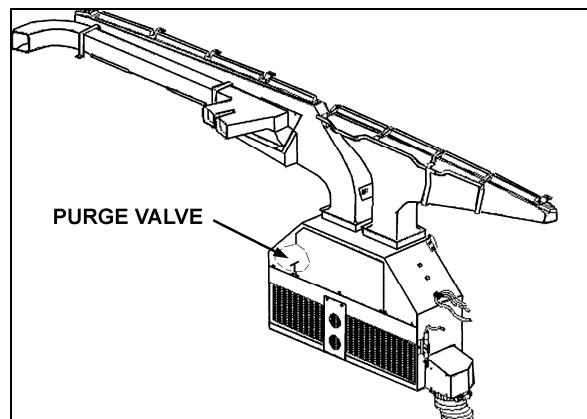

FIGURE 49: DRIVER'S HVAC/DEFROST UNIT
4. From inside of vehicle, remove the two finishing panels in front of unit. Remove the three screws fixing the unit front panel. Open the manual vent located inside the driver's HVAC unit, on the driver's side (Figure 49) to ensure an efficient draining.
Whenever the heating system has been drained and refilled, or the system has run low on coolant and coolant has been added, it is necessary to bleed air from heating system. Locate the manual vent illustrated in Figure 49 , and open momentarily until no air escapes from the line.